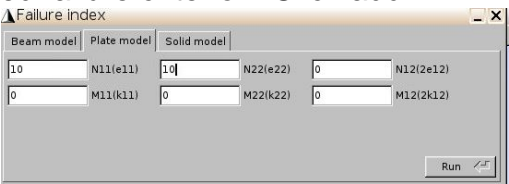

Fig. 10
* Click Failure index and strength ratio and select stress-based failure criterion. Click add. Select plate model and input and loads as shown in Fig. 10.